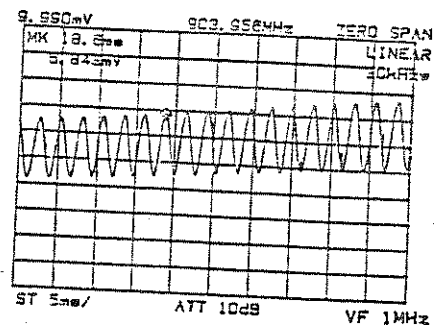

Figure 5-6 Reading the Difference from the Time Indication of the Adjacent Peak
- ⑬ Move the marker to the next peak and obtain the difference $T(s)$ between the time indication of that marker and the time indication in step ⑫. In this example, it can be obtained as $18.6 - 16.0 = 2.6$ (ms) (Figure 5-6).